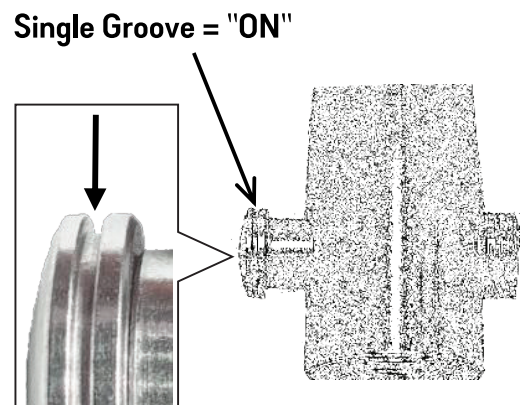

Fig.4
3. Slide the Switch Valve to "ON"(Fig.4)